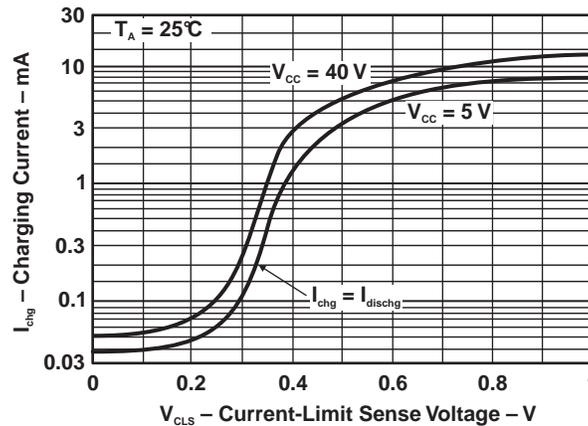

Figure 7. Timing Capacitor Charge Current vs Current-Limit Sense Voltage
Current limit is accomplished by monitoring the voltage drop across an external sense resistor located in series with VCC and the output switch. The voltage drop developed across the sense resistor is monitored by the current-sense pin, Ipk. When the voltage drop across the sense resistor becomes greater than the preset value of 330 mV, the current-limit circuitry provides an additional current path to charge the timing capacitor (CT) rapidly, to reach the upper oscillator threshold and, thus, limiting the amount of energy stored in the inductor. The minimum sense resistor is 0.2 W. Figure 7 shows the timing capacitor charge current versus current-limit sense voltage. To set the peak current, Ipk = 330 mV/Rsense.